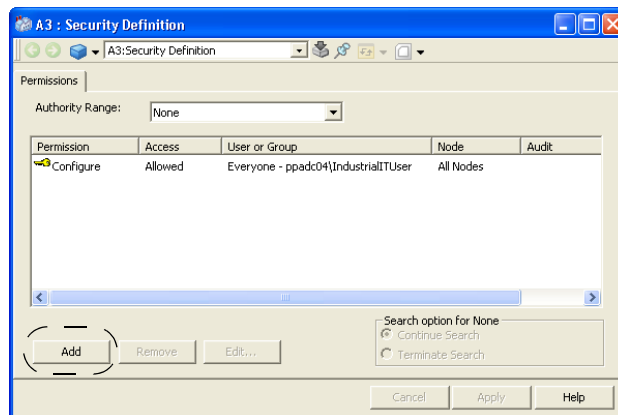

Figure 67. Security Definition Aspect Configuration View
2. Click on the **Add** button, see Figure 67.